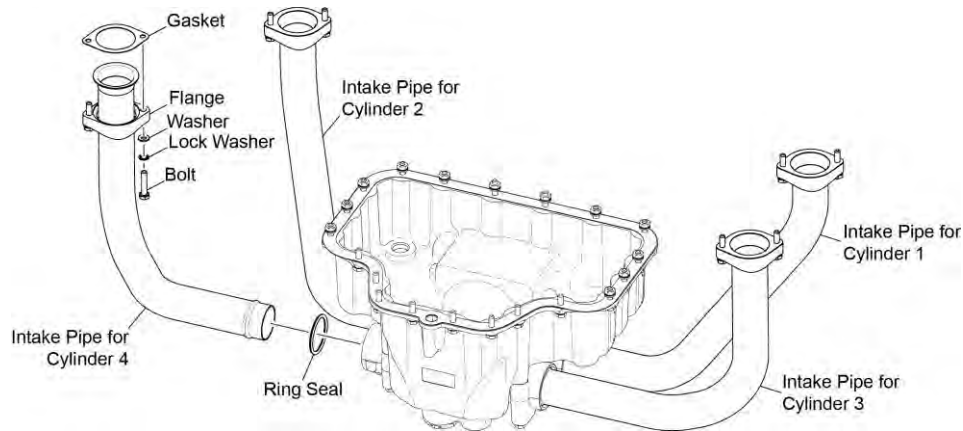

Figure 1
- A. Examine the air intake pipes (Figure 1) for leaks, security.
NOTICE: Each engine cylinder has a corresponding intake pipe of a different part number. Be sure to replace the intake pipe with the replacement intake pipe of the correct part number that corresponds to the engine cylinder number (Figure 1).
- (1) Remove the two bolts, lock washers, and washers from the intake pipe flange at the engine cylinder (Figure 1). Discard the lock washers.
- (2) Remove the gasket from the intake pipe, discard the gasket.
- (3) If the intake pipe is not to be replaced, attach a label to the intake pipe that identifies the corresponding engine cylinder number for reference on assembly.
- (4) Pull the intake pipe and ring seal from the oil sump. Discard the ring seal.